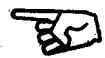

FIGURE 2-230. Auxiliary Machinery Motor Control Center.
**2-39. Auxiliary Machinery Motor Control Center (FIGURE 2-230) Shutdown.**
- a. Press STOP pushbutton (2), set P205-9 circuit breaker (1) to OFF position.
- b. Press STOP pushbutton (4), set P205-10 circuit breaker (3) to OFF position.
- c. Press STOP pushbutton (27), set P205-11 circuit breaker (28) to OFF position
- d. Press STOP pushbutton (25), set P205-12 circuit breaker (26) to OFF position.
- e. Set P205-14A (23) and P205-14B circuit breakers (24) to OFF position.
- f. Set P205-13A (21) and P205-13B circuit breakers (22) to OFF position.
- g. Press STOP pushbutton (6), set P205-1 circuit breaker (5) to OFF position.
- h. Press STOP pushbutton (17), set P205-2 circuit breaker (20) to OFF position.
- i. Press STOP pushbutton (18), set P205-3 circuit breaker (19) to OFF position.
- j. Press STOP pushbutton (8), set P205-6 circuit breaker (7) to OFF position.